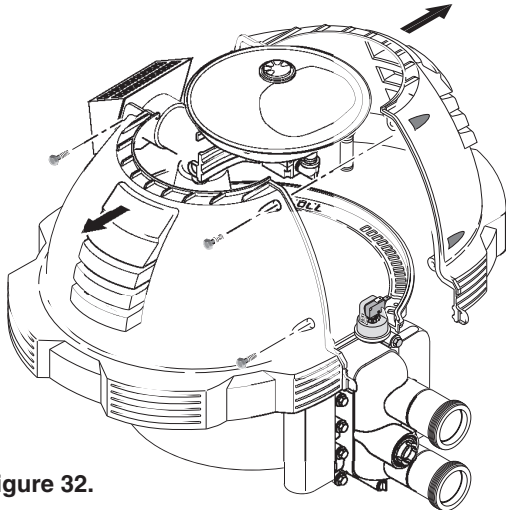

Figure 32.
2. Unbolt and remove the upper jacket halves (see Figure 32).
9. Re-install and bolt up the jacket halves. See Figure 32 on page 33.